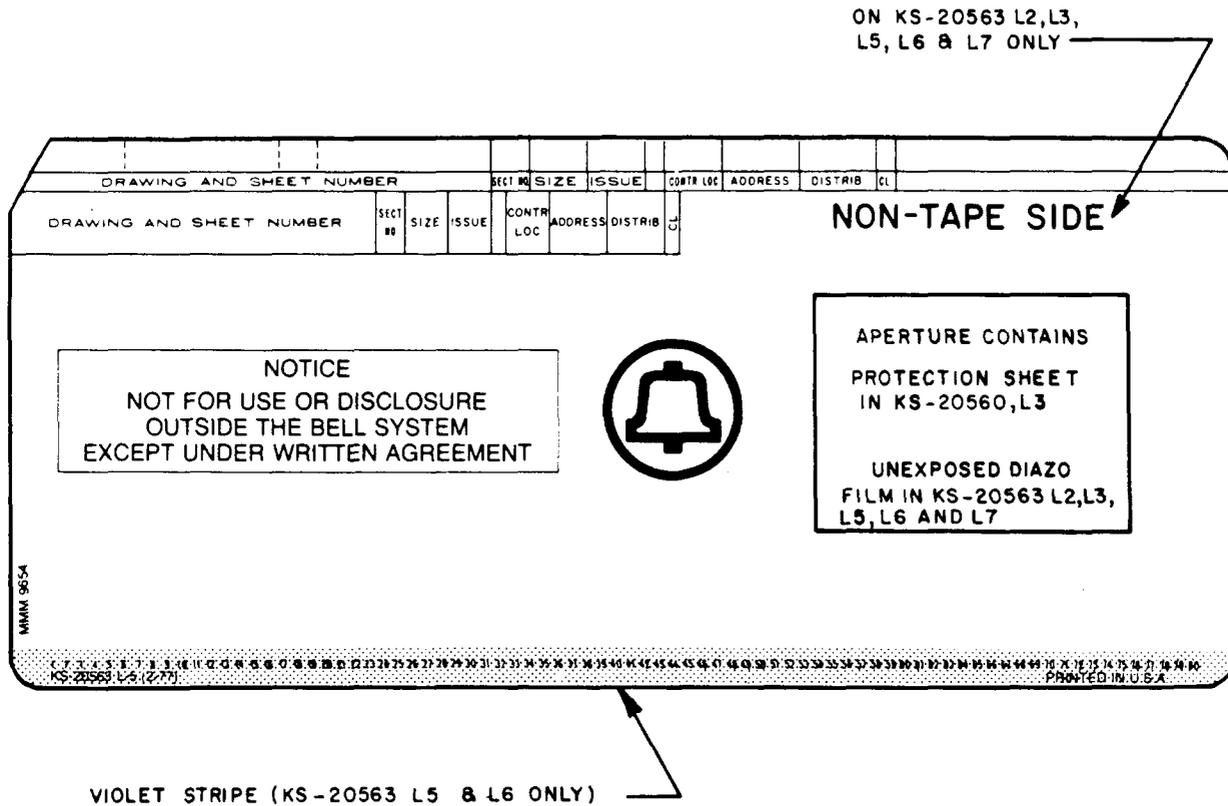

Fig. 1 — KS-20560 L3 or KS-20563 L2, L3, L5, L6, and L7 Card (Green-Stock or Stripe)
- (a) Revise all EAM cards to include Restrictive Notice (Fig. 1 through 6).
- (b) Include KS-20563 L7 and KS-21478 L2 cards and to revise card stock or stripe colors (Table A, Fig. 1 through 6, and 5.05).